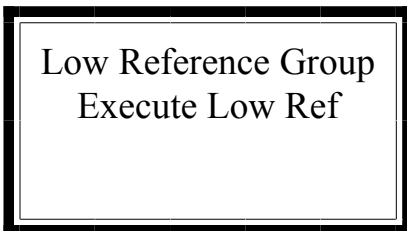

Figure 9c: Executing Low Ref:
4) Locate the Execute Low Ref Menu Variable, Figure 9c, and press the MODify key, and follow the two remaining prompts.